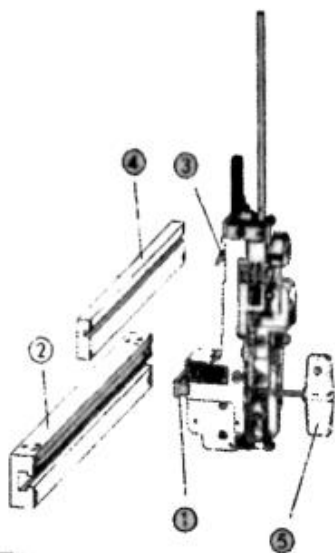
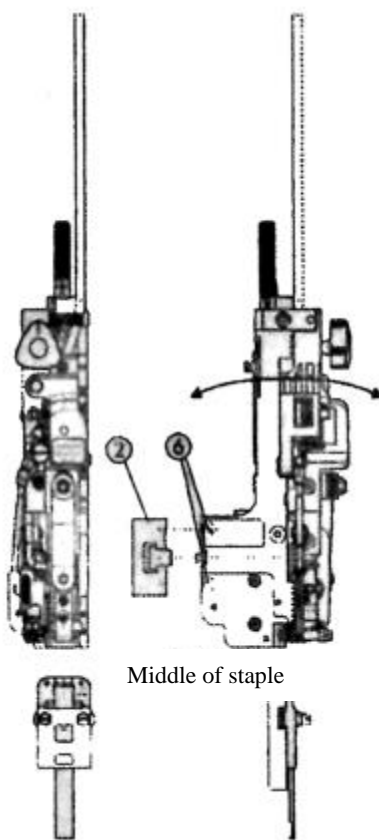

FIG.4
FIG.5
-FIG.4-
- insert the staple head into the mounting block so that the drive block (3) is also inserted into the drive beam (4) and the t-block is just in the slot of the staple head.
-FIG.4, FIG.5-
- the center of the wire forming block inside the staple head must be set to the ideal position for wire binding by adjusting back and forth.- loosen the t-type mounting block ① with the t-wrench ⑤.- move the staple head horizontally until it reaches its desired position.- use a t-wrench to fasten the t-block to the staple head and install the beam ②.
-FIG.5-
- If the center of the wire set is too tight hook forward or backward, this can be corrected by the set head adjustment screw ⑥.
- adjust screw ⑥.